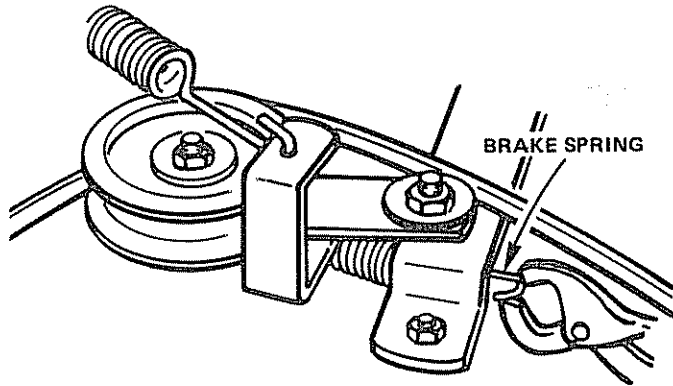

FIGURE 29
5. Use pliers to remove Brake Spring (Fig. 29).